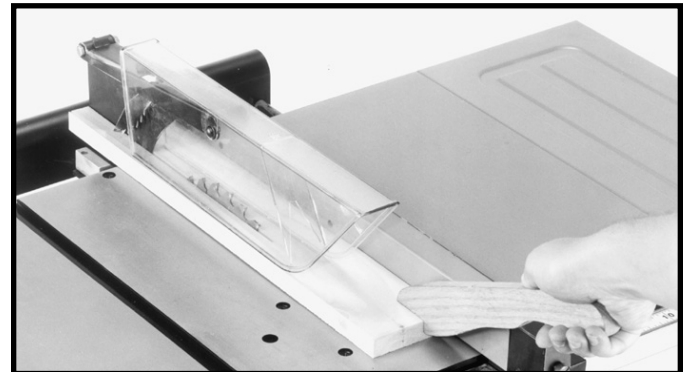

Fig. 51
2. If the ripped work is less than 4 inches wide, a push stick should always be used to complete the feed, as shown in Fig. 51. The push stick can easily be made from scrap material as explained in the section **“CONSTRUCTING A PUSH STICK.”**